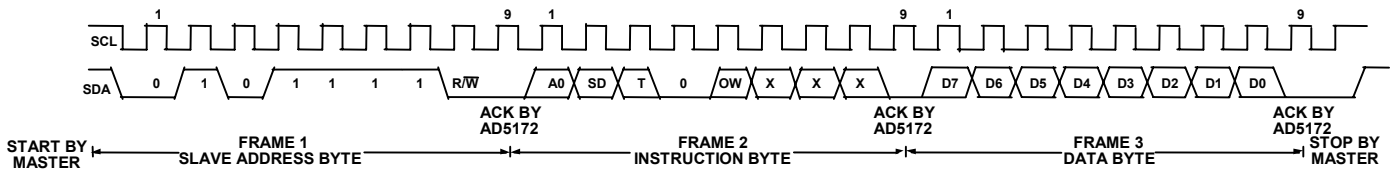
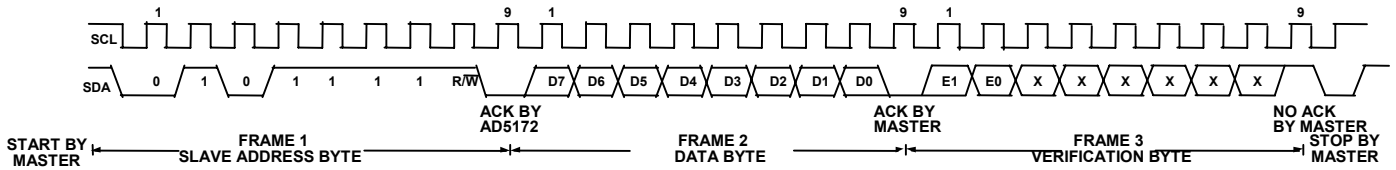
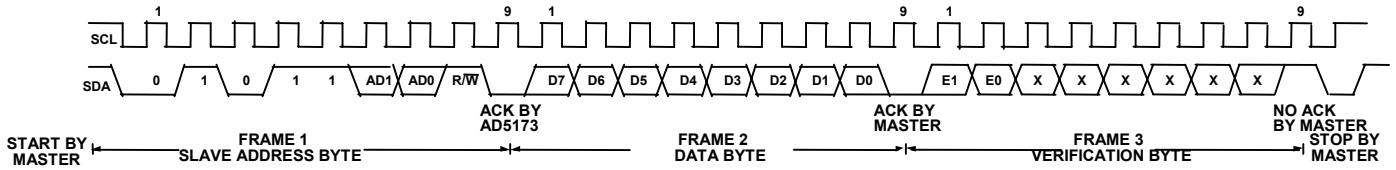

Figure 13. Writing to the RDAC Register – AD5172
Figure 15. Reading Data from a Previously Selected RDAC Register in Write Mode – AD5172
Figure 16. Reading Data from a Previously Selected RDAC Register in Write Mode – AD5173
1. The master initiates data transfer by establishing a START condition, which is when a high-to-low transition on the SDA line occurs while SCL is high (see Figure 13). The following byte is the slave address byte, which consists of the slave address followed by an R/\overline{W} bit (this bit determines whether data will be read from or written to the slave device). The AD5172 has a fixed slave address byte whereas the AD5173 has two configurable address bits AD0 and AD1 (see Table 5).
3. In the read mode, the data byte follows immediately after the acknowledgment of the slave address byte. Data is transmitted over the serial bus in sequences of nine clock pulses(a slight difference with the write mode, where there are eight data bits followed by an acknowledge bit). Similarly, the transitions on the SDA line must occur during the low period of SCL and remain stable during the high period of SCL (see Figure 15 and Figure 16).
users need to read the RDAC values of both channels, they need to program the first channel in the Write Mode and then change to the Read Mode to read the first channel value. After that, they need to change back to the Write Mode with the second channel selected and read the second channel value in the Read Mode again. It is not necessary for users to issue the Frame 3 data byte in the write mode for subsequent readback operation. Users should refer to Figure 15 for the programming format.
- After all data bits have been read or written, a STOP condition is established by the master. A STOP condition is defined as a low-to-high transition on the SDA line while SCL is high. In write mode, the master will pull the SDA line high during the tenth clock pulse to establish a STOP condition (see Figure 13) In read mode, the master will issue a No Acknowledge for the ninth clock pulse (i.e., the SDA line remains high). The master will then bring the SDA line low before the tenth clock pulse which goes high to establish a STOP condition (see Figure 15 and Figure 16).